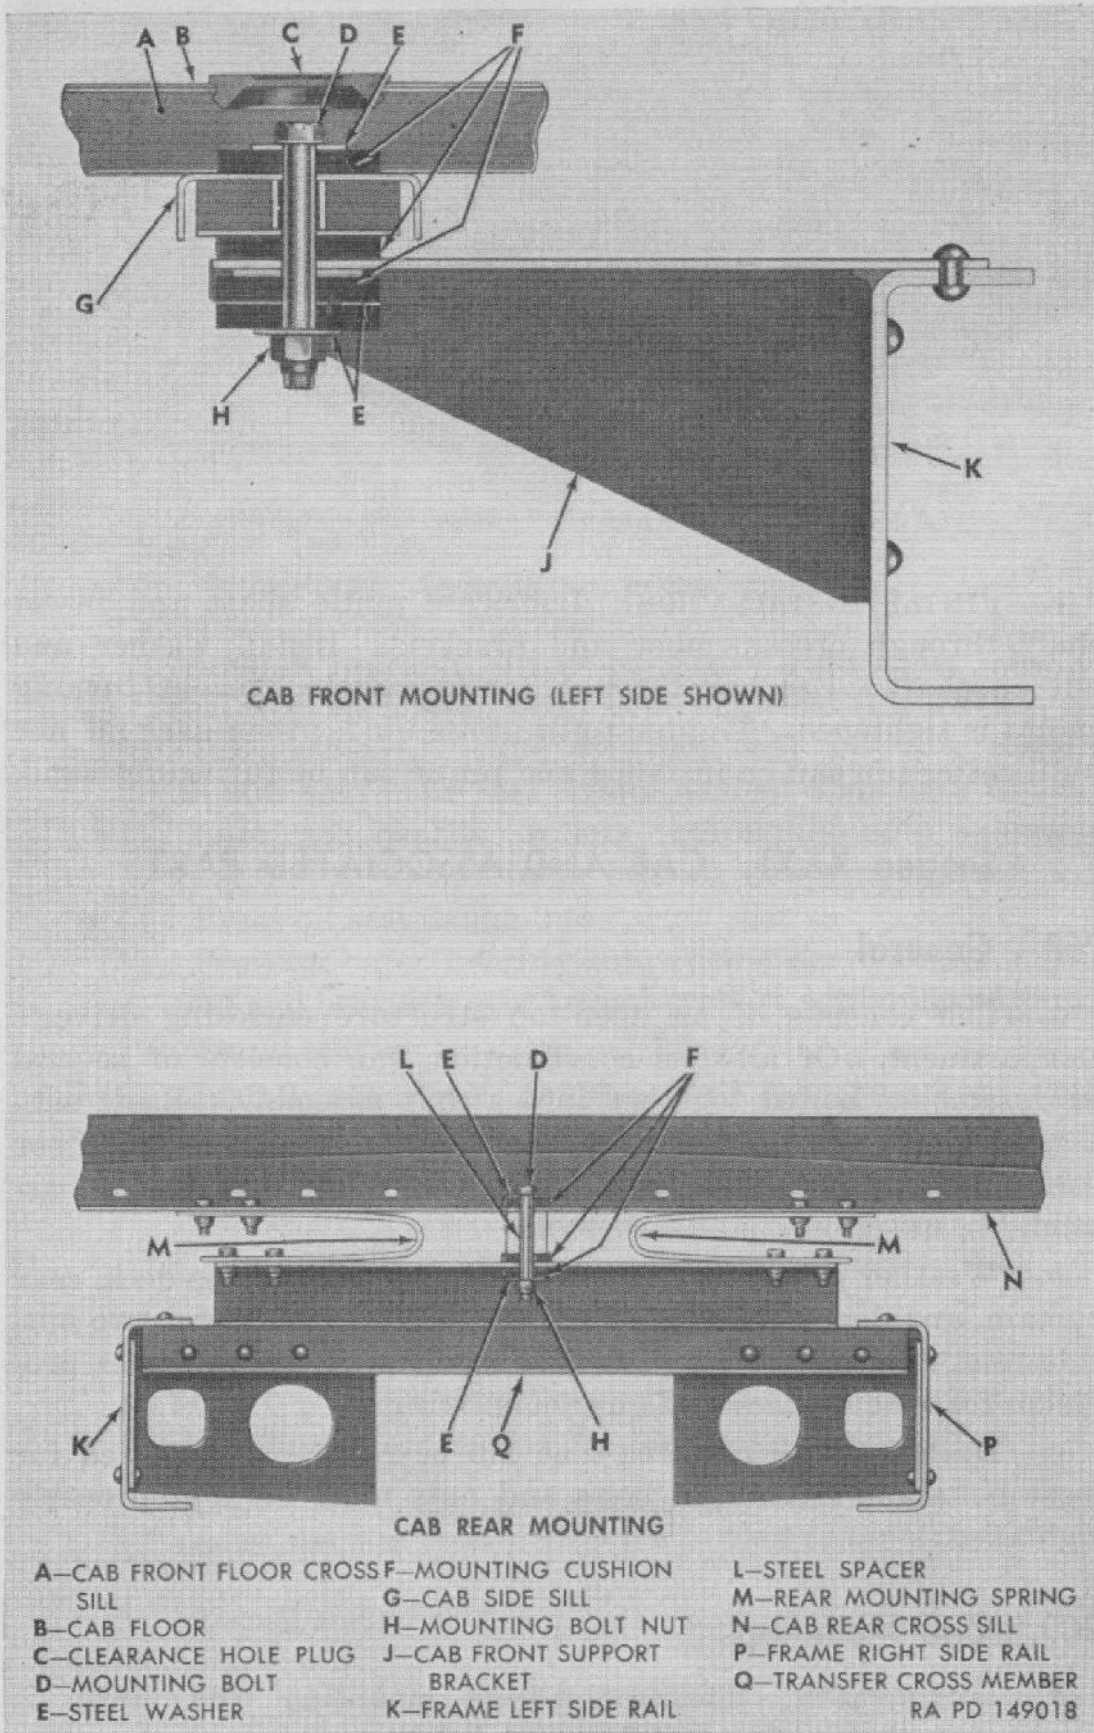

Figure 161. Cab mounting.
a. **DESCRIPTION.** Three-point-type mounting (fig. 161) is used to attach cab to chassis frame. Both front corners of cab are flexibly mounted, by means of cushions, to frame mounting bracket. Rear mounting consists of a single through-bolt and cushions, at